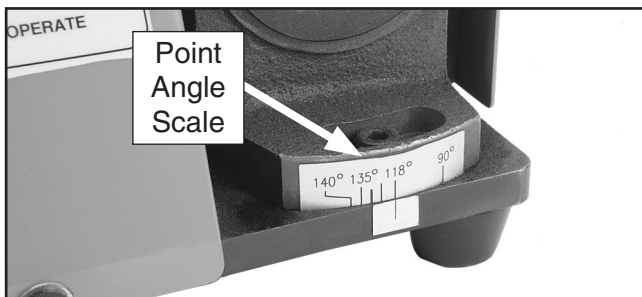

Figure 17. Point angle set to 118°.
2. Use the included hex wrench to loosen the cap screw on the point angle scale (**Figure 17**).